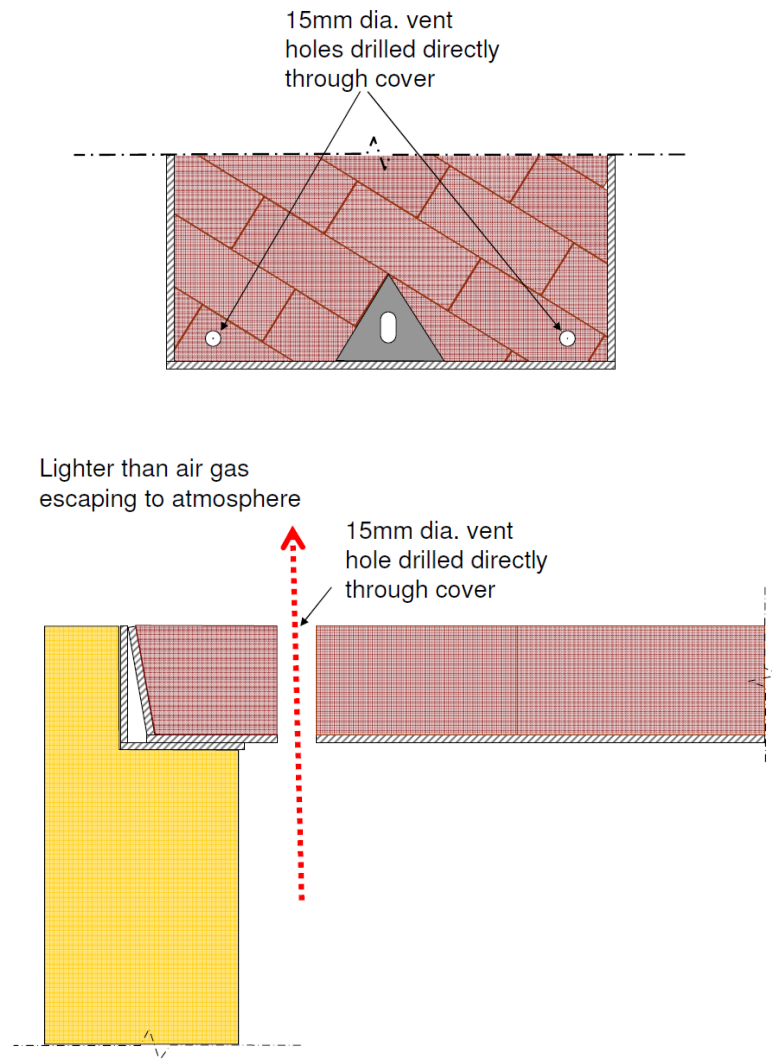

Figure 6: Modification of Existing Manhole Covers – Option (3)
Option (3) is illustrated in Figure 6. It is applicable to both recessed covers and concrete infill covers. Separate vent holes may be drilled directly down through the paving blocks or concrete and through the base plate. This option may be deployed where drilling of a hole through the keyhole is found to be impractical. Considering that the holes should be of small diameter and no larger than the keyhole openings so as not to give rise to any hazard to pedestrians, a larger number of holes should be provided to reduce the increased risk of blockage by debris. In general, four such holes of 15 mm in diameter or equivalent area should be provided symmetrically around the edges in each manhole cover.